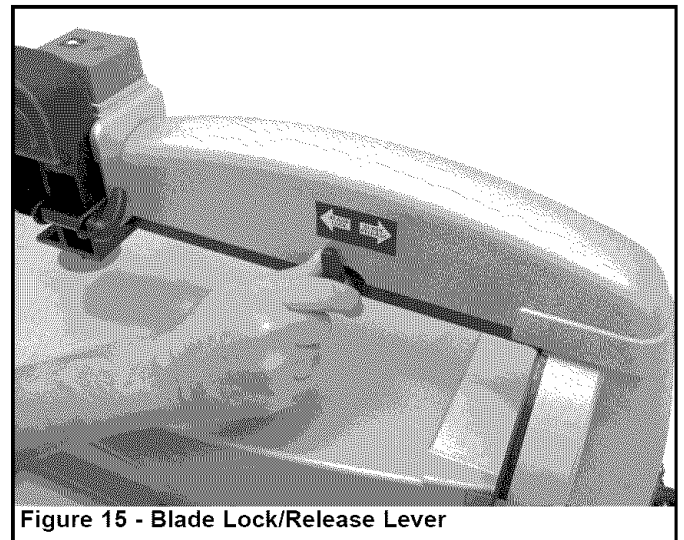

Figure 15 - Blade Lock/Release Lever
Refer to Figure 15.
Refer to Figures 15, 16 and 17, pages 7 and 8.
- Remove table insert. Release blade tension by pushing lock/release lever backwards (see Figure 15).